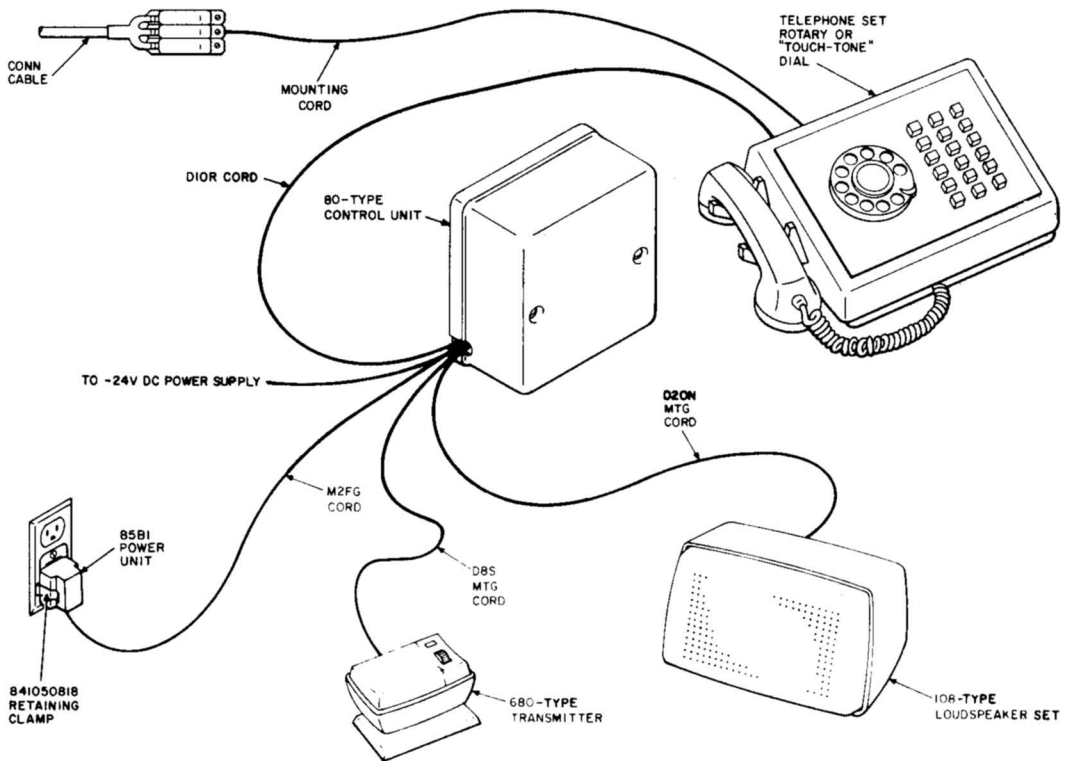

Fig. 2—Typical Arrangement of 4A Speakerphone System With 2- or 4-Wire Telephone Set
2.19 The 80-type control unit (Fig. 2 and 7) provides for connecting the 4A speakerphone system to either a 2- or 4-wire telephone transmission network. All standard operating features of the 4A speakerphone system are retained. Attached to the chassis of the control unit is a connector (same as that used in the 223-type adapter) to which the 108-type loudspeaker set, the 680-type transmitter and the 85B1 power unit are connected.